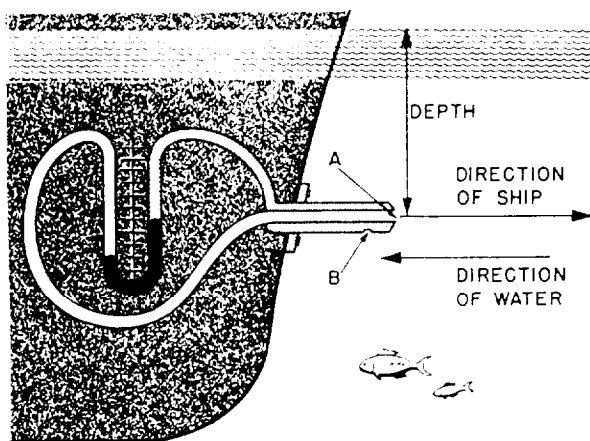

figure 10-4.-A pitometer log.
Figure 10-4 shows a schematic drawing of a pitometer log. It consists of a double-wall tube that sticks out forward of the ship's hull into water that is not disturbed by the ship's motion. In the tip of the tube is an opening (A). When the ship is moving, two forces or pressures are acting on this opening: (1) the hydrostatic pressure caused by the depth of the water above the opening and (2) a pressure caused by the push of the ship through the water. The total pressure from these two forces transmits through the central tube (shown in white on the figure) to the left-hand arm of a manometer.